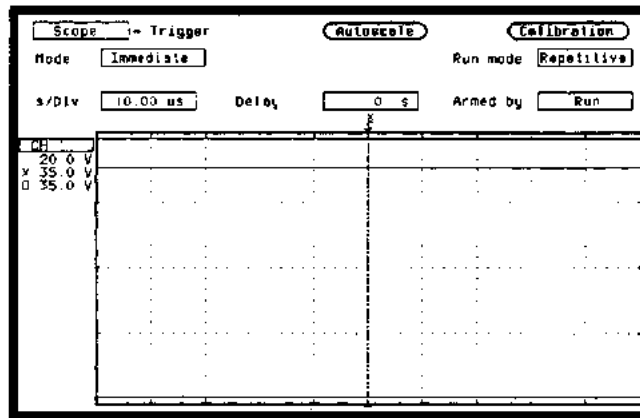

Figure 3-49. Trigger Menu
11. Press the TRACE/TRIG key, then press RUN. The Trigger level cursor will appear as in figure 3-49.